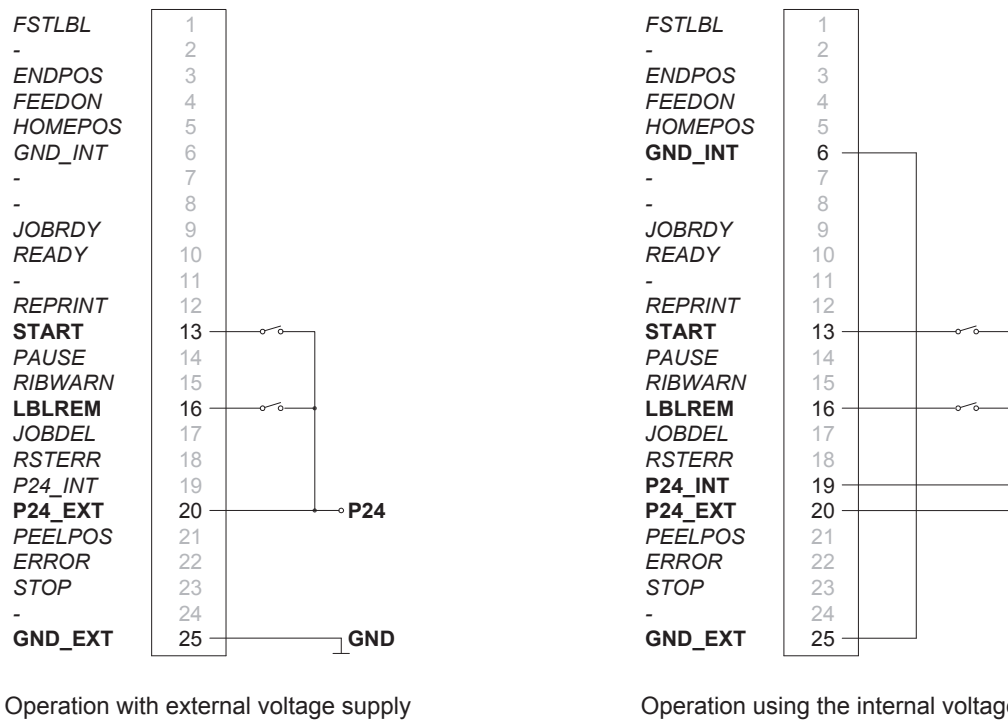

Figure 28 External circuit for peeling-off on demand without present sensor with two signals
- External circuit as shown in Figure 28